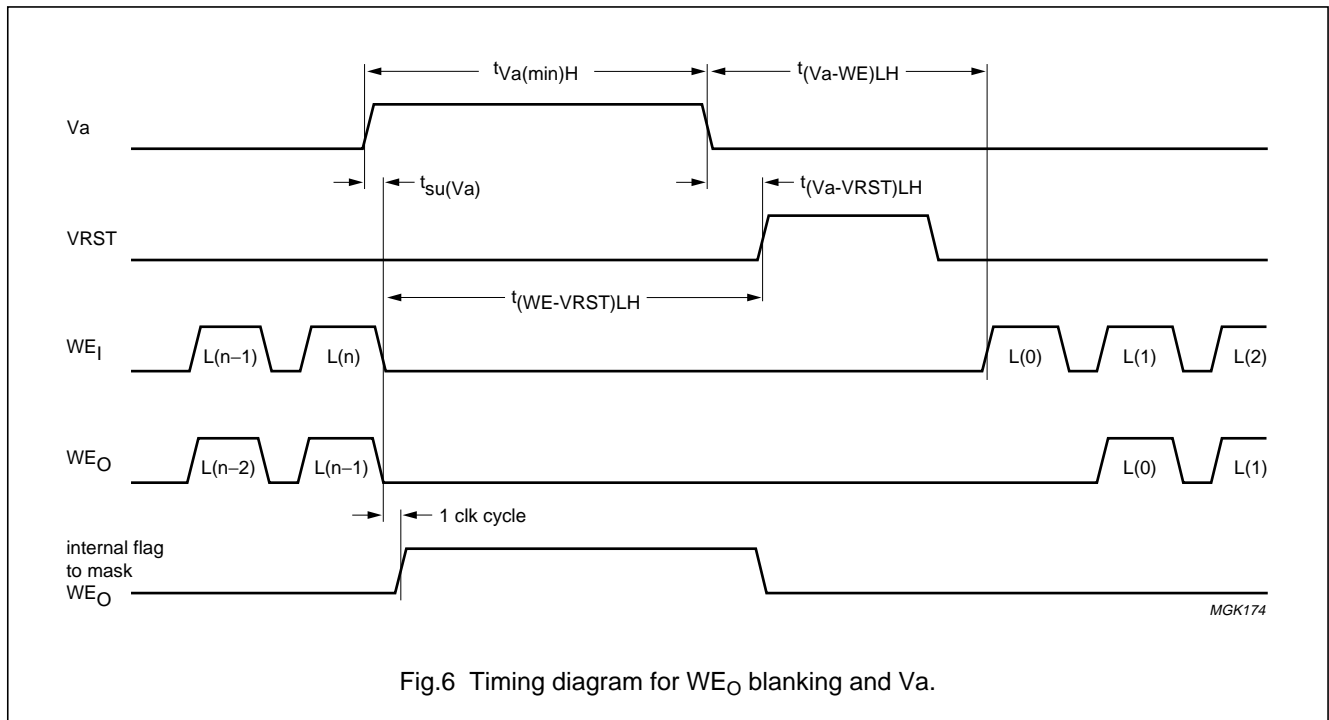

Fig.6 Timing diagram for  $WE_O$  blanking and  $V_a$ .
- See timing diagram Fig.6 and Table 11 for timing specification.
- Timing relation (see Fig.6) depending on write enable select signal (WES) in status register; to adapt to different external video memories
- The write enable output sequence is a copy of the write enable input sequence of the previous line (see Fig.6) with a shift of one line